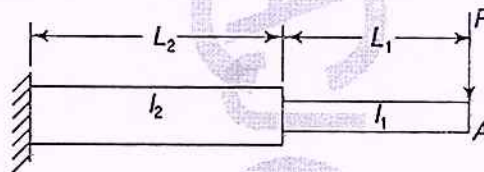

Fig 3
- 18a For the cantilever beam shown in Fig 3, determine the deflection at the end A. I_1 and I_2 are the moment of inertia of the beam section of length L_1 and L_2 respectively. Neglect shear energy. (9)